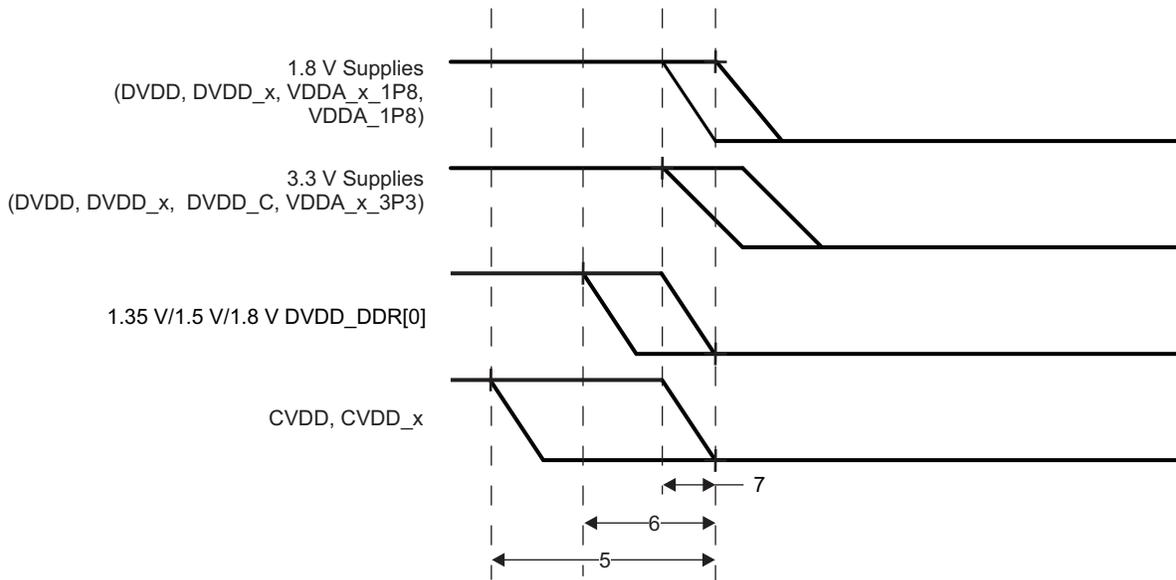
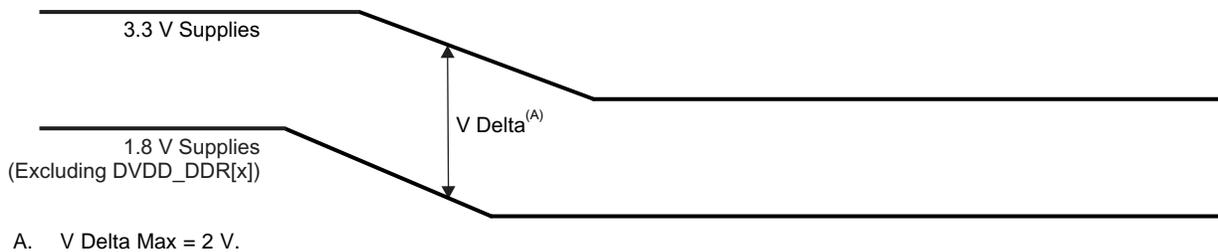
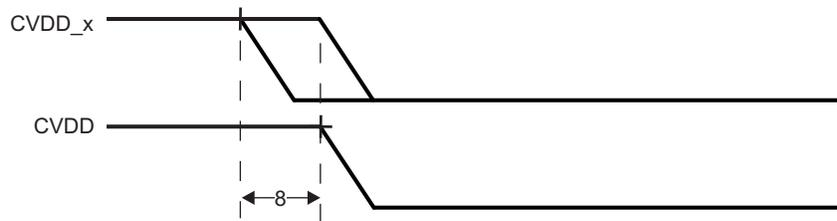

Figure 7-2. Power-Down Sequence
Figure 7-3. 3.3 V Supplies Falling After 1.8 V Supplies Delta
Figure 7-4. CVDD and CVDD\_x Power-Down Sequence
For proper device operation, the following power-down sequence in Table 7-6, Figure 7-2, Figure 7-3, and Figure 7-4 **must** be followed.
- (1) The 3.3 V supplies **must** never be more than 2 V above the 1.8 V supplies (see Figure 7-3).
- (2) The CVDD supply must be powered down coincidentally or after CVDD\_ARM and CVDD\_HDVICP supplies (see Figure 7-4).